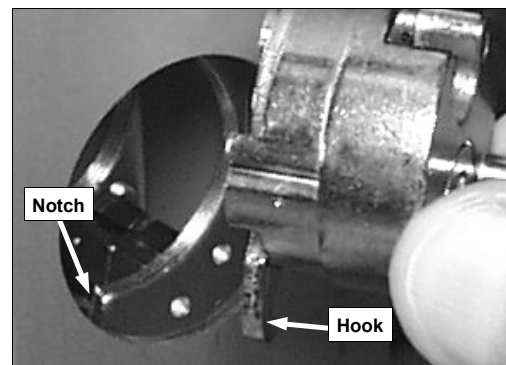

Fig. 6b: While holding latch in, place hook *in front of* the latch retractor and *through* the notch
- 5b. While holding in the latch, carefully insert the interface cylinder assembly into the cylinder hole. The hook must be *in front of* the latch retractor and pass *through* the notch in the lock case (see Fig. 6b).